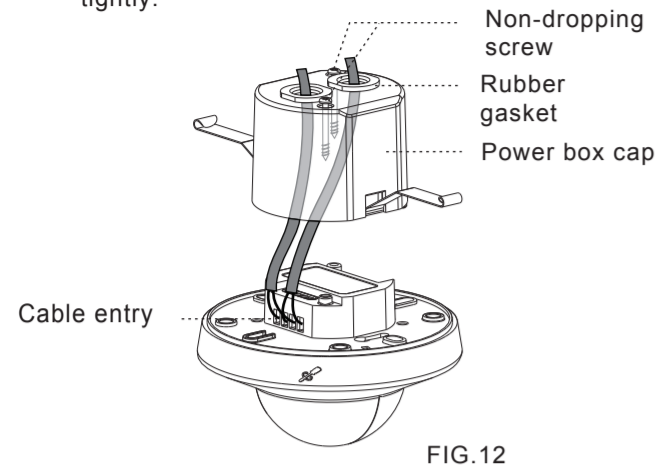

FIG.12
3.4.2.2 Use screwdriver to break the rubber gasket on Power box cap, then feed cables through it (See FIG.12).